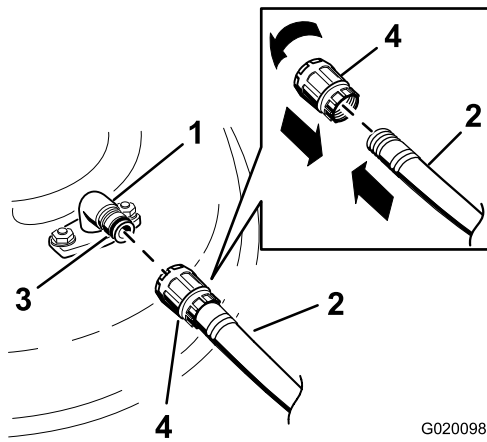

Figure 62
- Attach the hose coupling to the end of the mower washout fitting, and turn the water on high (Figure 62).